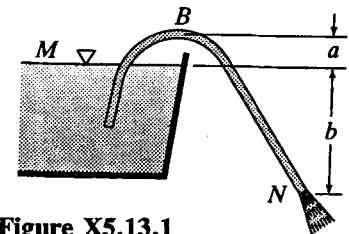

Figure X5.13.1
5.13.1 Assume there is friction head loss in the siphon of Fig. X5.13.1, where $a = 1$ m, $b = 4$ m. The loss between the intake and B is 0.6 m and between B and N is 0.9 m. What is the rate of discharge and pressure head at B when the diameter is 150 mm?